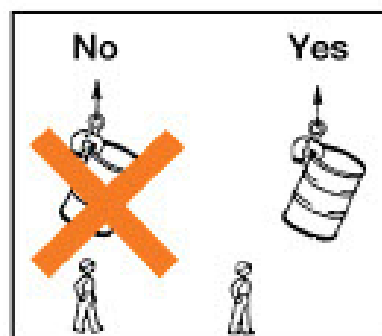

Figure 61
**WARNING!** All personnel must stand clear of drum while it is being lifted or removed (Fig. 61).